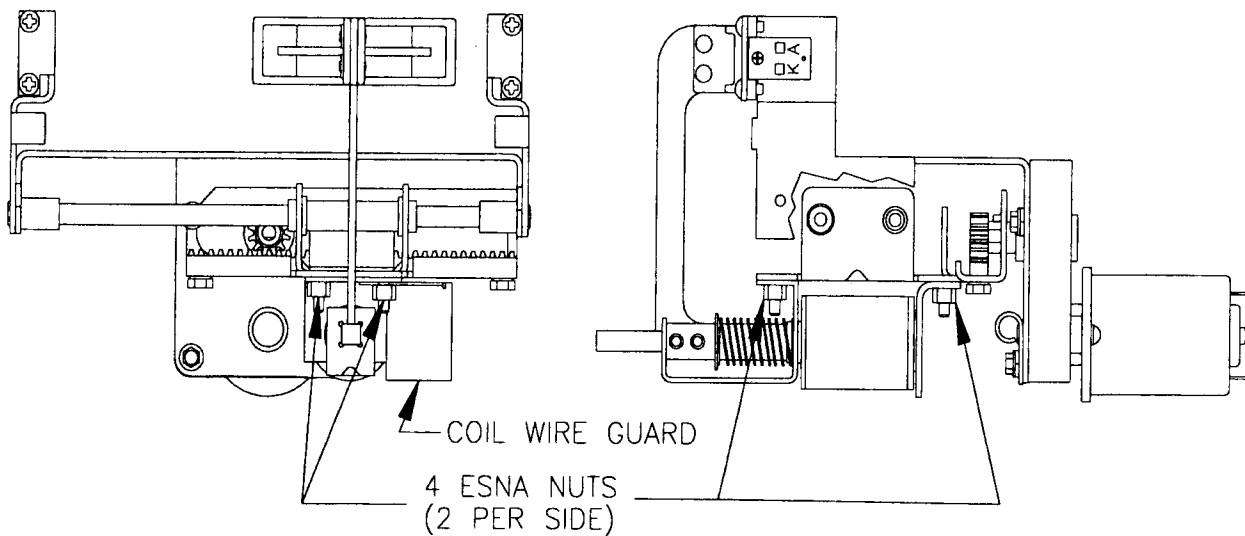

Fig. 3
- a. Remove four (4) #8 ESNA nuts that secure coil mounting bracket and coil stop brackets.
- b. Coil wire guard may then be removed. (See Fig. 3)